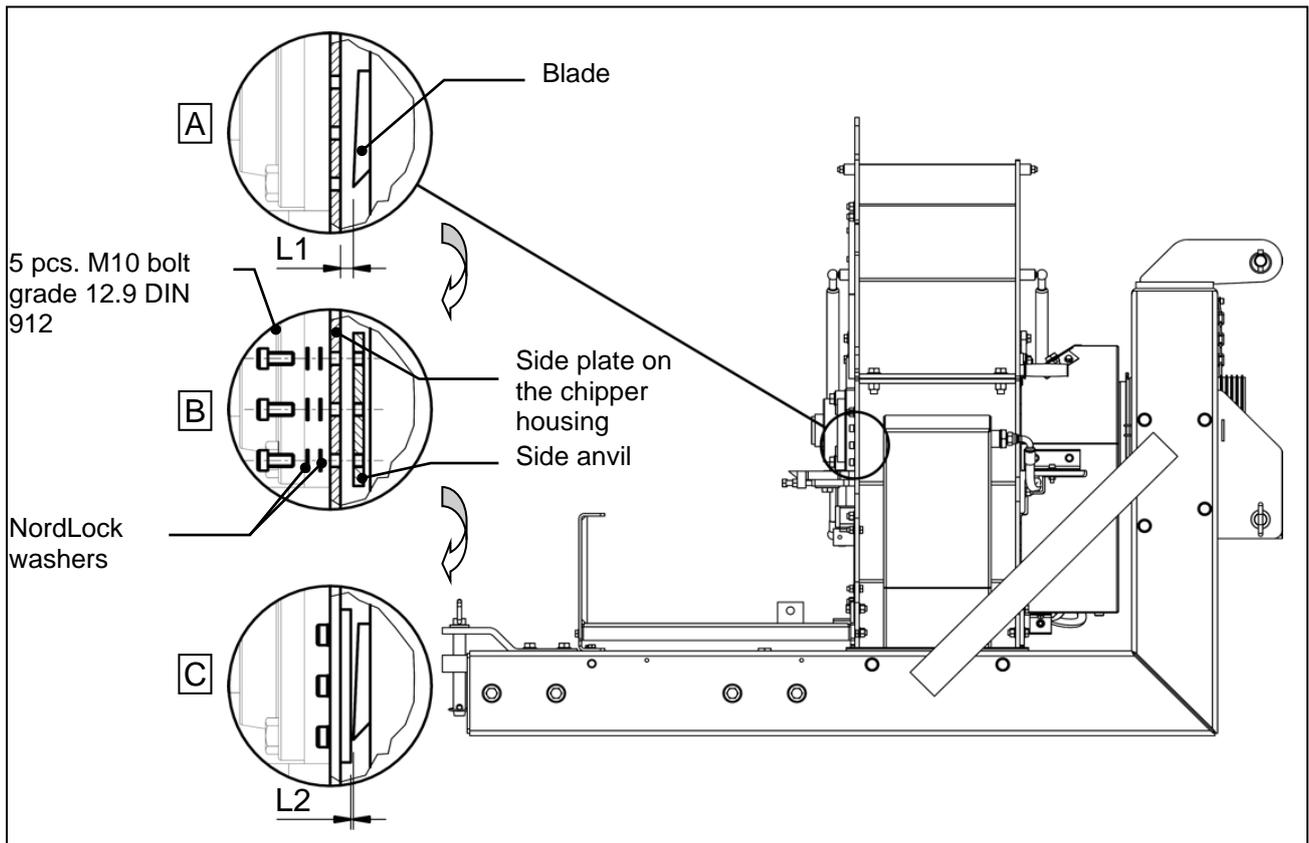

Figure 43: Installation of the side anvil (feeder removed)
7. The new side anvil can now be mounted as shown in Figure 43 magnification B, each with 5 pcs. M10 bolts with cylinder head and internal hexagonal grade 12.9 DIN 912 and 5 sets of NordLock washers.
9. Once both side anvils are installed and the bolts are tightened, check that the distance L2 (see Figure 43 magnification C) is between 4-5 mm. If this is not the case, choose a different thickness of side anvil.
1. By measuring from the inside of the chipper's side plate to the blade edge, measurement L1 is found (see Figure 43 magnification A).